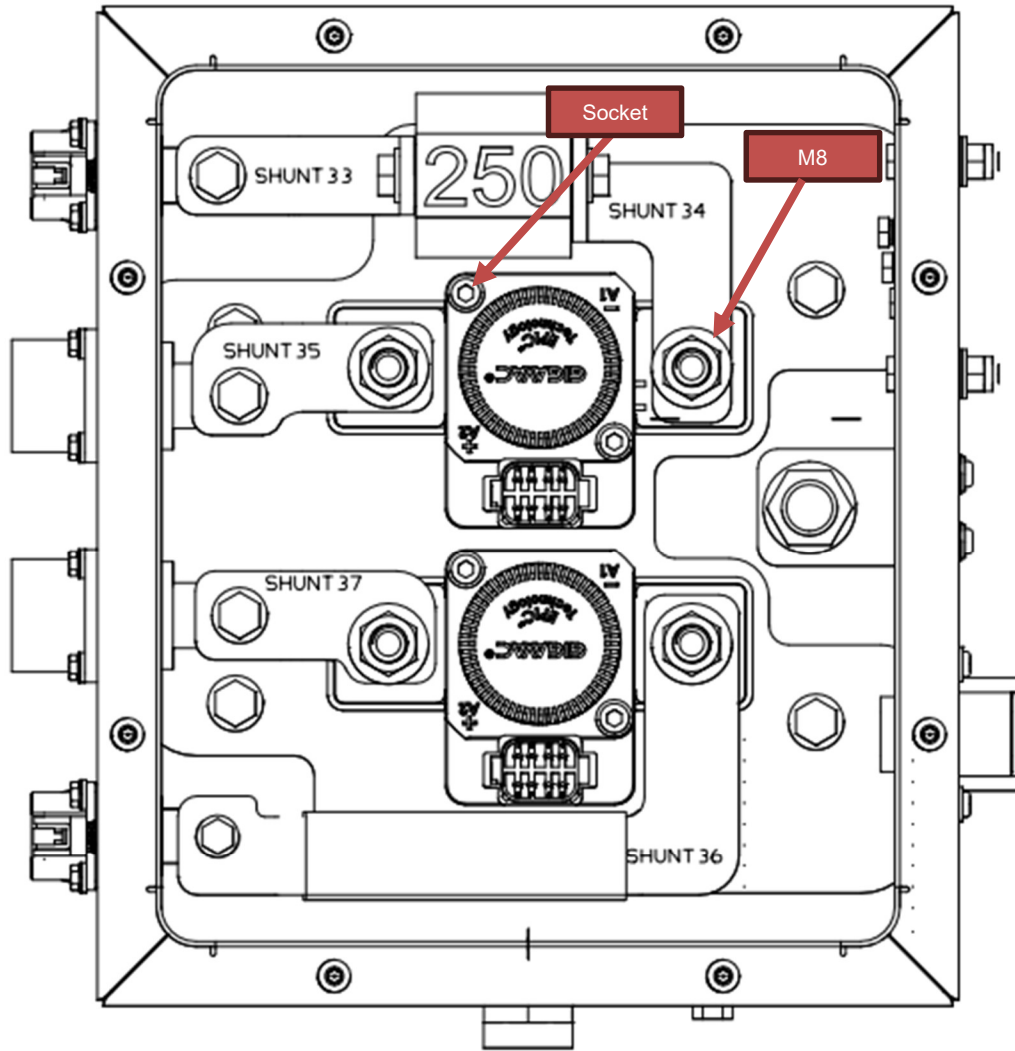

Figure 4 - Contactors Mounting screws
- 2.6. Disconnect the mating connector of the LV harness from that of the positive GIGAVAC contactors (see figure 4).
- 2.7. Unscrew the two M8 nuts mounting the busbars at both ends of the positive GIGAVAC 250A contactor (see figure 4).
- 2.8. Unscrew the two socket head cap screws mounting the GIGAVAC contactor to the base of the box and remove the contactor (see figure 4).